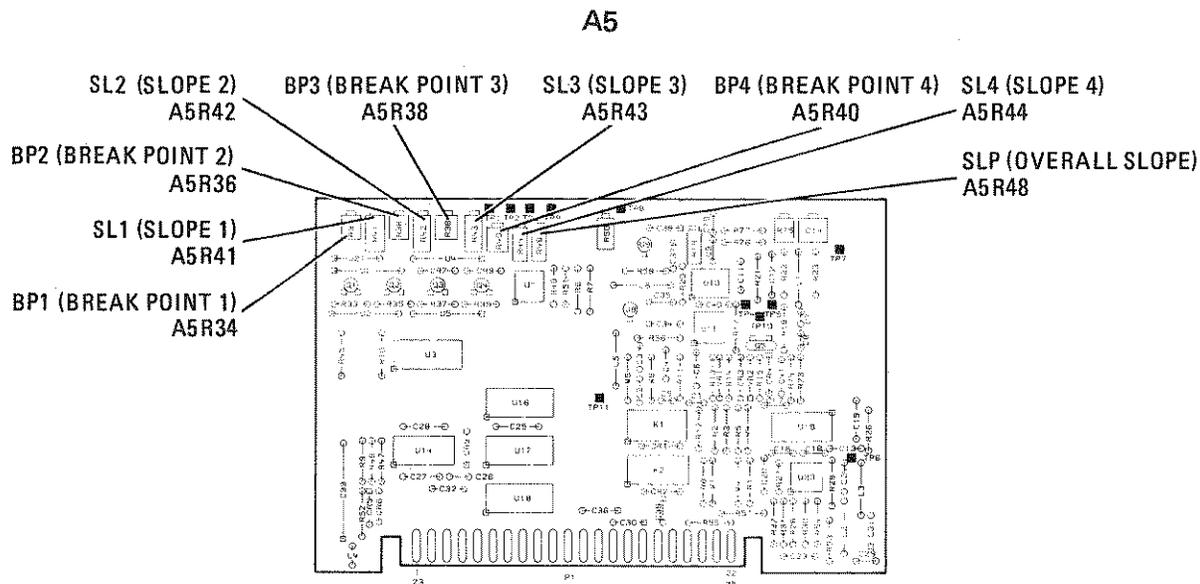

Figure 5-21. Internal Leveling Adjustments Location
2. Adjust all breakpoint potentiometers fully clockwise against the stops: A5R34 "BP1", A5R36 "BP2", A5R38 "BP3", and A5R40 "BP4" as shown in Figure 5-21. This effectively removes the circuit from the leveling loop.